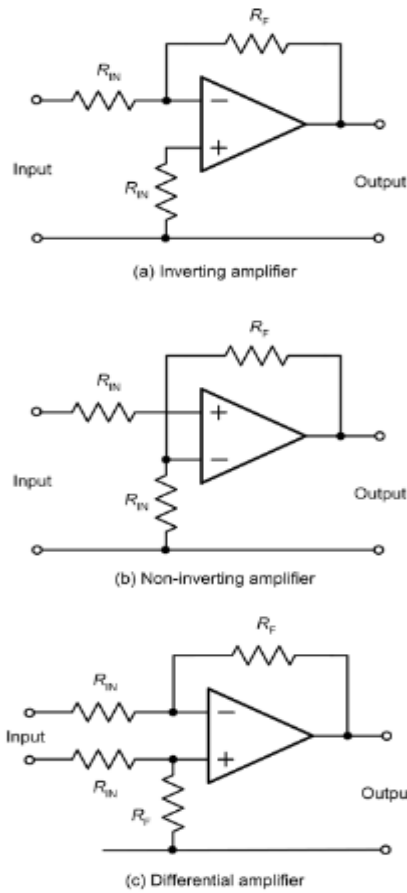

Fig 2.3. Three basic configuration for operational amplifier.
- The three basic configurations for operational voltage amplifiers, together with the expressions for their voltage gain, are shown in Fig. 2.3.